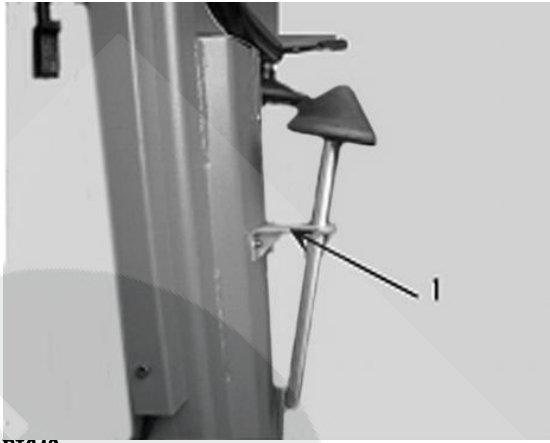

FIG42
6.1.9 As fig42, fix the cone support on the body bracket and install the press cone on the bracket.